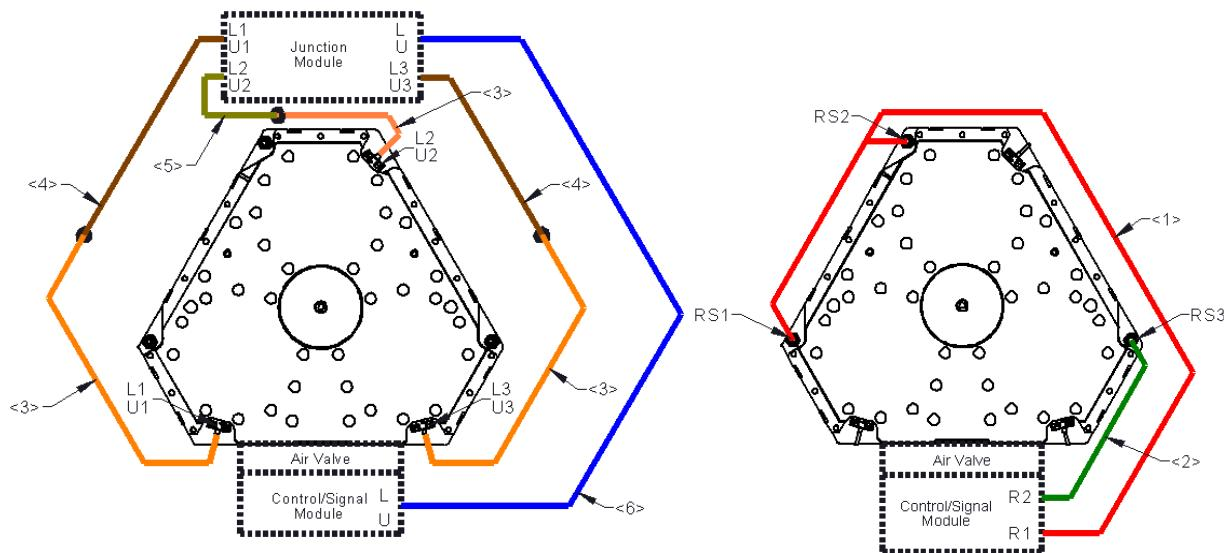

Figure 3.3—Sensor Cable Routing
Figure 3.3 and Table 3.1 show the cables pertaining to the Lock and Unlock sensors. From the factory, the cables will be labeled to match where they are connected.
Cable # from Fig. 3.3	ATI Part Number
The QC-1210 Master has (3) RTL sensors. They are designated as “RS1”, “RS2”, and “RS3”. Sensors “RS1” and “RS2” are wired in series (by means of a splitter cable) and in this way provide the control module with a single “R1” signal. Only when “RS1” and “RS2” are both triggered will a Tool presence signal occur at “R1”. The third RTL sensor, “RS3”, is connected directly to the control module at “R2” to give a second Tool presence signal. Figure 3.3 and Table 3.1 show the cables pertaining to the RTL sensors. The labels on the cables indicate which sensors the cables are connected to.